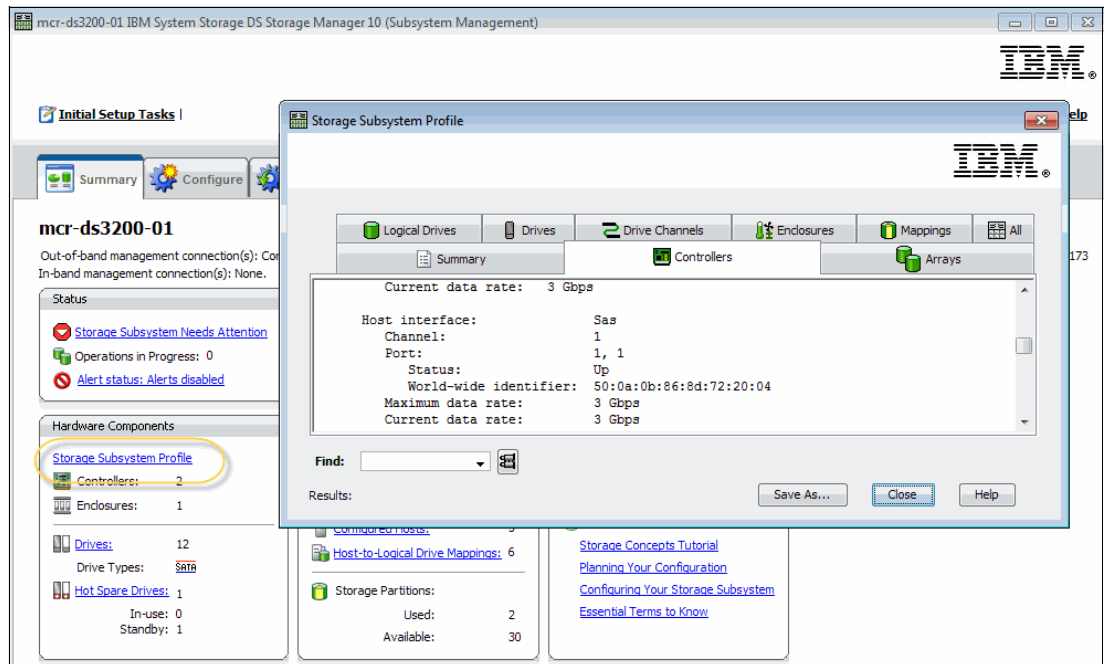

Figure 6-11 Obtaining DS3200 SAS port WWPN: DS Storage Manager GUI
13. Scroll through the Controllers tab to find the SAS port WWPN that is used to connect to the Storwize V3700, as shown in Figure 6-11.